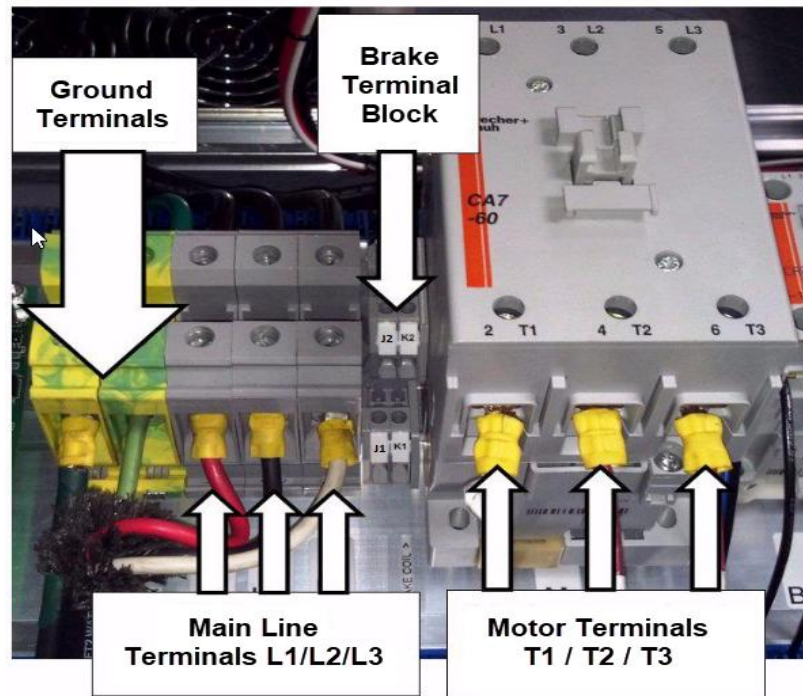

Figure 117: Control Panel
5. Connect the ground wire to the yellow/green ground terminal block next to the L1/L2/L3 terminals (See Figure 117).
6. Connect motor leads to the M contactor on terminals T1/T2/T3 (See Figure 117).
7. Connect the main brake wires to terminals K1 and K2 (See Figure 117).
- i. If a secondary sheave brake is being used, connect the sheave brake to terminals J1 and J2 (See Figure 117).The process is completed.